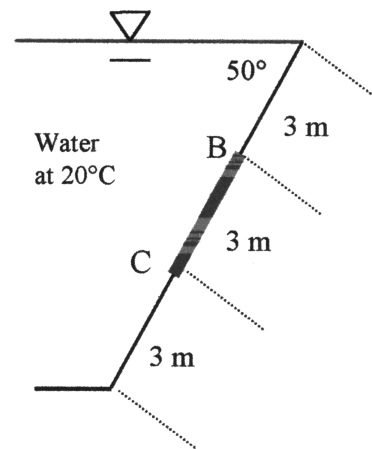

Fig. P2.76
**2.76** Panel BC in Fig. P2.76 is circular. Compute (a) the hydrostatic force of the water on the panel; (b) its center of pressure; and (c) the moment of this force about point B.